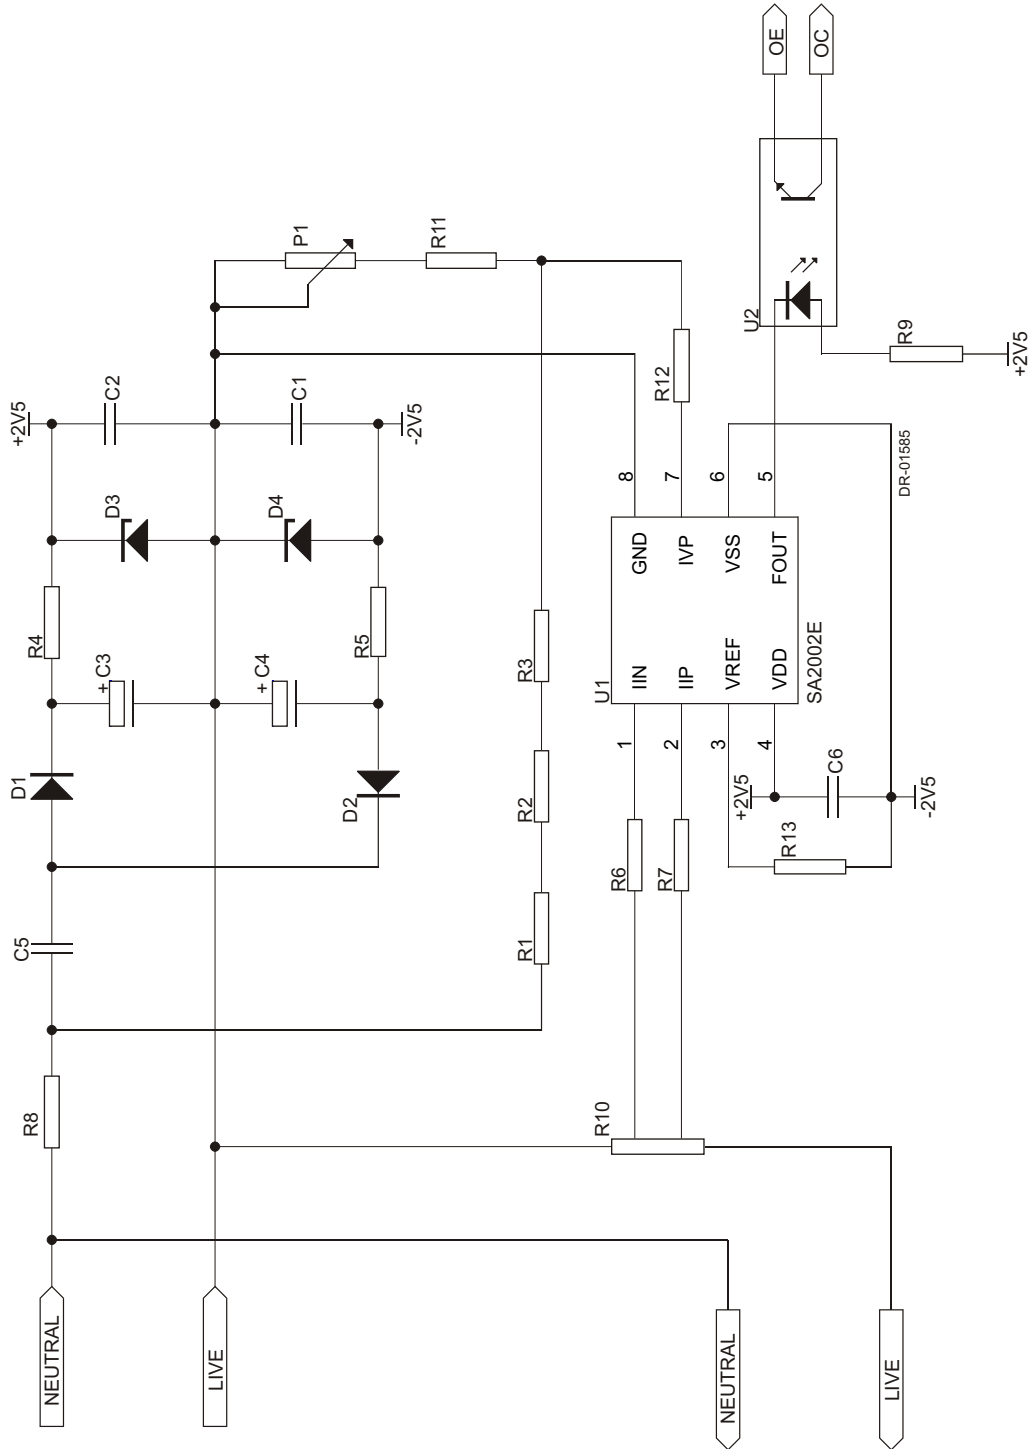

Figure 10: Application circuit using a shunt resistor for current sensing.
In figure 10, the components required for stand alone power metering application, is shown. The application uses a shunt resistor for the mains current sensing. The meter is designed for 220V/40A I_{MAX} operation. The most important external components for the SA2002E integrated circuit are the current sense resistors, the voltage sense resistors as well as the bias setting resistor.
**Parts List for Application Circuit: Figure 10**